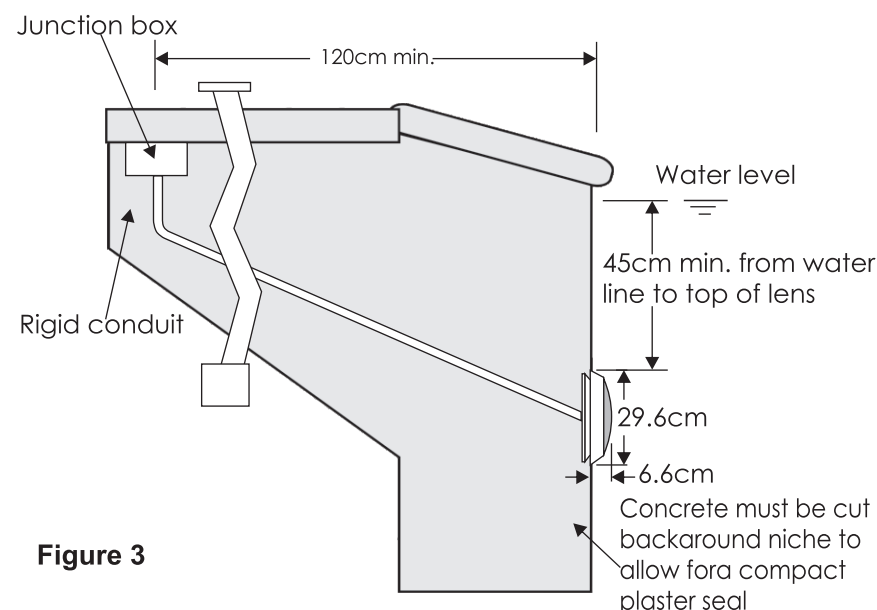

Figure 3
2. Make sure the voltage is 12V and the terminal box is at least 120cm from the poolside (Figure 3).
3. Upon installation, top of the light must be at least 45cm from water surface (Figure 3).